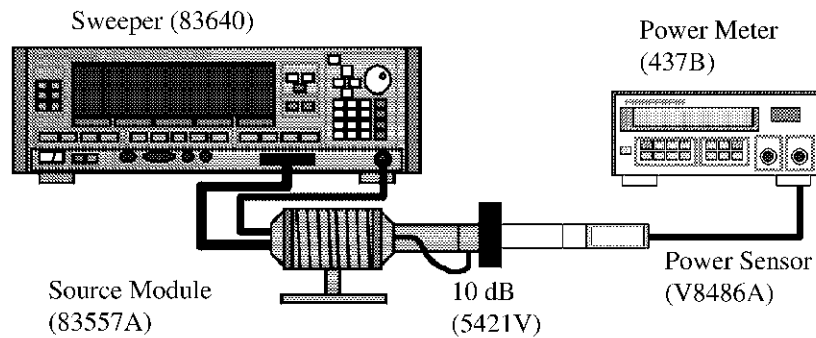

Figure 6-8 Setup of Source Module Calibration
2. Connect equipment as shown in Figure 6-8.